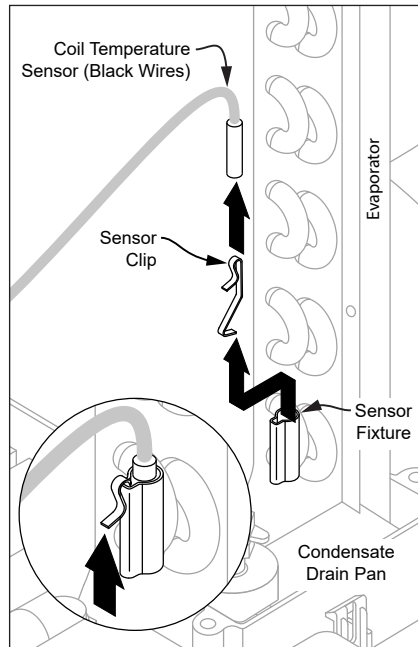

Figure 101 - Coil Temperature Sensor (Located Bottom Right Side of Evaporator)
- 12** Locate Coil Temperature Sensor (black wires). Remove foam insulation and discard. Pull upward on clip to remove sensor and clip from fixture (see Figure 101).